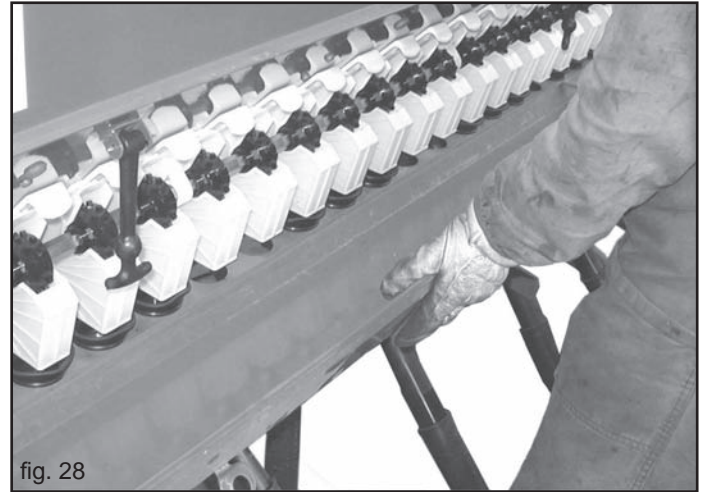

fig. 28
- 2) Release the seed-test trays (Fig. 28) and position them beneath the seed discharge mouths.